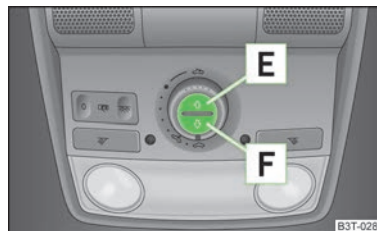

Fig. 28
The sun screen can be closed or opened separately using the buttons » Fig. 28. ►
- Briefly press the button **E** » Fig. 28 to open fully.
- Briefly press the button **F** » Fig. 28 to close fully.
To activate the sun screen, press and hold the switch **F** » Fig. 28 on page 45 for approx. 10 seconds.